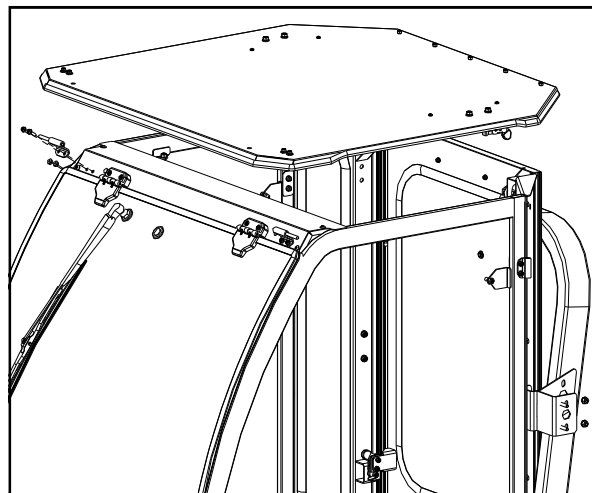

Fig. 12.1 (Roof Installation)
12.1 With assistance, lift the roof onto the side frames. See Figure 12.1. *Take care not to engage the quick release latches with the side frame latch pins.*